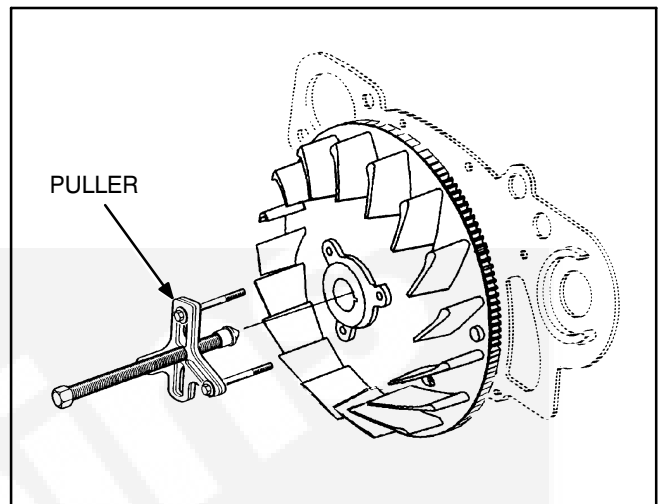

FIGURE 9-7. PULLING THE FAN HUB ASSEMBLY
10. Remove fan hub assembly with a wheel puller (Figure 9-7) Attach the wheel puller to the fan hub assembly with three 5/16-inch thread tapping cap screws (or tap fan hub with 3/8-16 inch tap and use 3/8-16 inch cap screw).